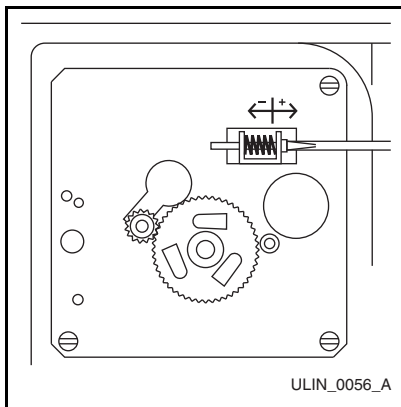

Figure 6
1. Remove the ice maker assembly cover (**Figure 6**).